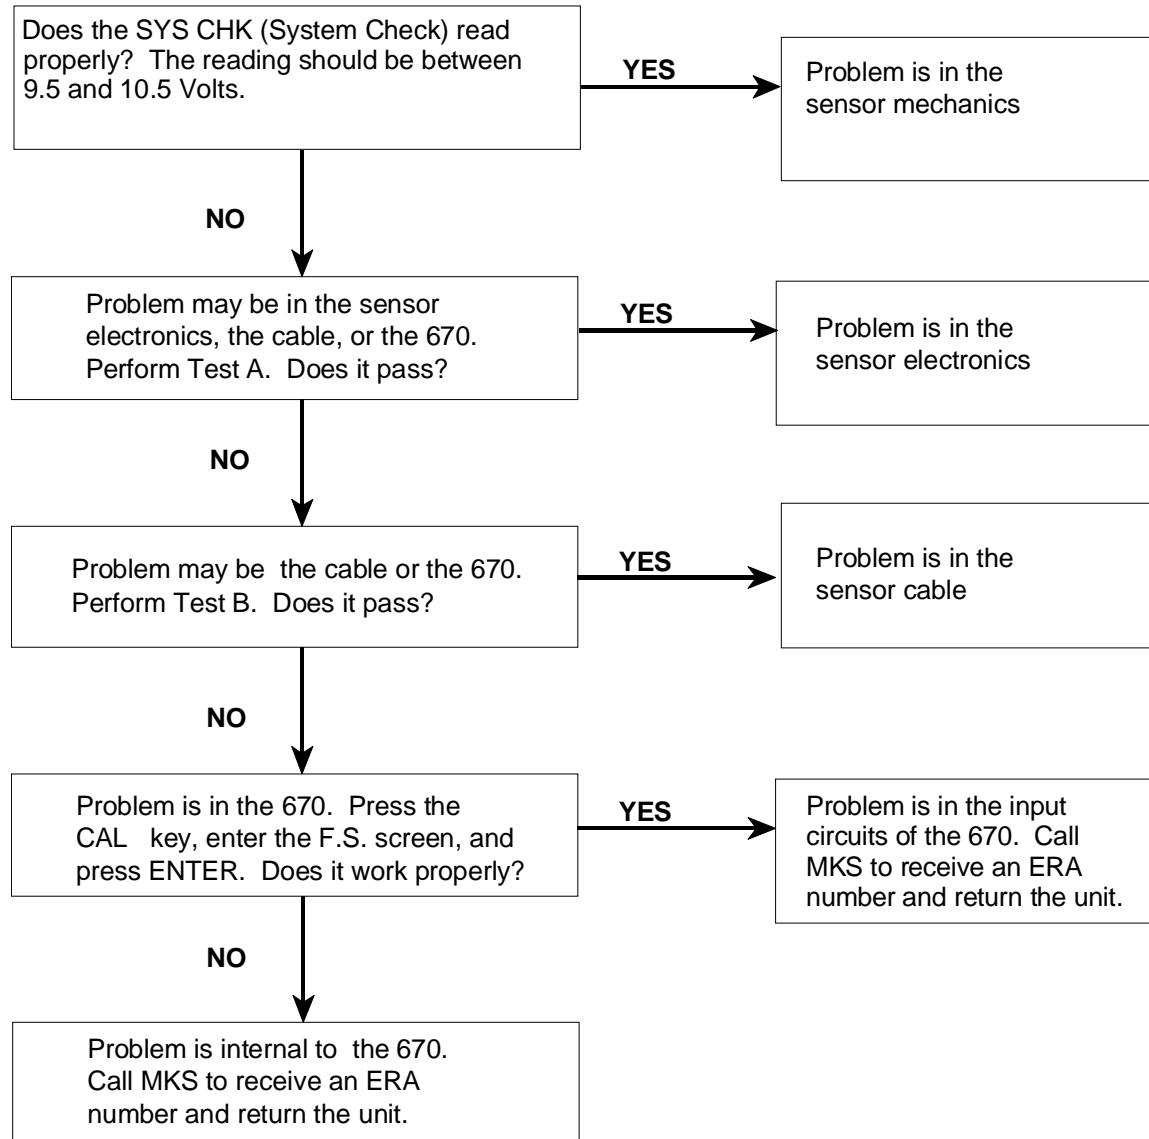

Figure 18: Troubleshooting Flow Chart
8. Perform the steps outlined in the flow chart in Figure 18, page 132.